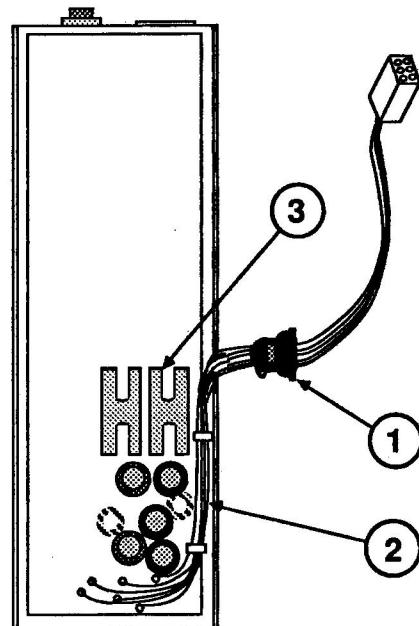

FIGURE 8
2. Using the bushing pliers (or regular pliers if strain relief bushing pliers are unavailable), pinch the power cable strain relief bushing (Figure 8, #1), and pull the bushing from the power supply housing.
3. Pull excess power cabling through the power supply housing. Pull until the cable (Figure 8, #2) inside the power supply is taut. Make sure this cable is routed between the housing and heatsink (Figure 8, #3), and is not touching the heatsink. The proper positioning is shown in Figure 8.